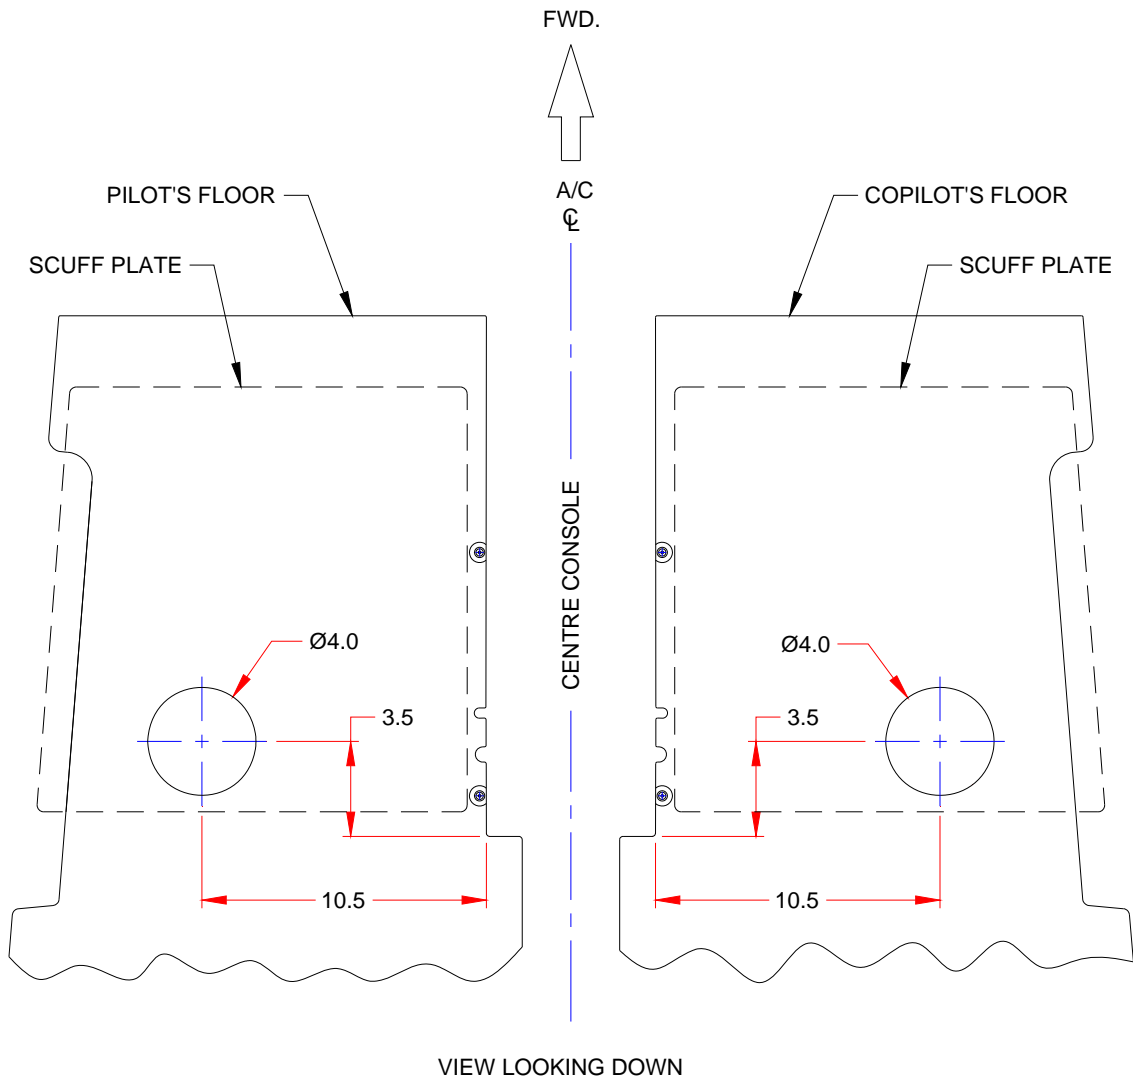

Figure 1 Access Cutouts Location
4. Mark access holes location on both pilot and copilot floors, Ref. Figure 1.